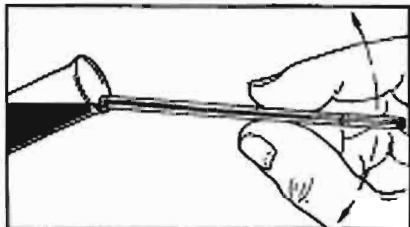

Figure 17. Keep PRE-CAL Tube Nearly Horizontal While Filling From VACUTAINER Brand Blood Collection Tube.
- d. THE TUBE MUST BE FILLED EXACTLY TO THE CALIBRATION MARK. The rate of filling may be accelerated by tilting the end near the calibration mark below the horizontal. When tilting, be careful not to spill blood from the VACUTAINER Brand Blood Collection Tube. The rate may be retarded, stopped or reversed by tilting the same end above the horizontal as shown in Figure 17.